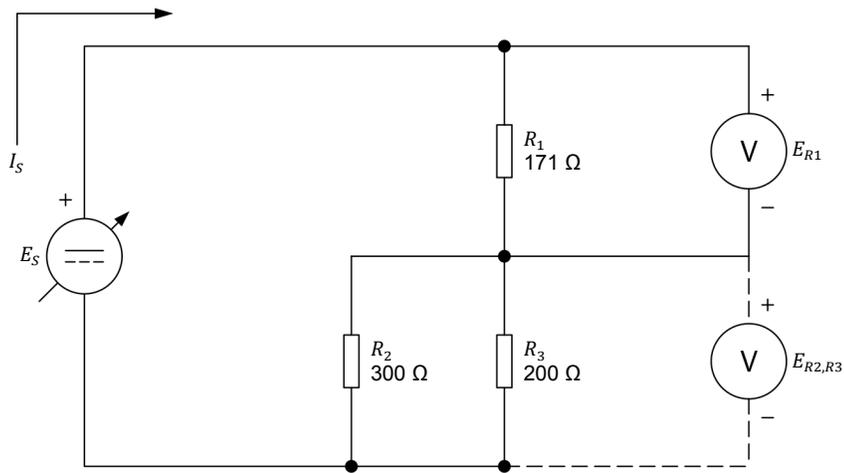

Figure 32. Circuit made of resistors connected in series-parallel.
24. Set up the circuit shown in Figure 32. To obtain the resistor arrangement of Figure 32, make the necessary connections and switch settings on the **Resistive Load** module.
25. Calculate the equivalent resistance $R_{Eq.}$ of the resistors in Figure 32. Then, calculate the source current I_S based on the equivalent resistance $R_{Eq.}$ and the source voltage E_S of 50 V.
Disconnect the voltmeter from resistor R_1 and connect it across parallel resistors R_2 and R_3 , as Figure 32 shows. Record the voltage $E_{R2,R3}$ indicated by the voltmeter in Table 4.
2. Consider the circuit of Figure 32. If the voltage of the source E_S doubles, what happens to the current flowing through each resistor and to voltages E_{R1} and $E_{R2,R3}$?
3. If the value of resistor R_3 in the circuit of Figure 32 is reduced by half, does the current through resistor R_2 increase or decrease?